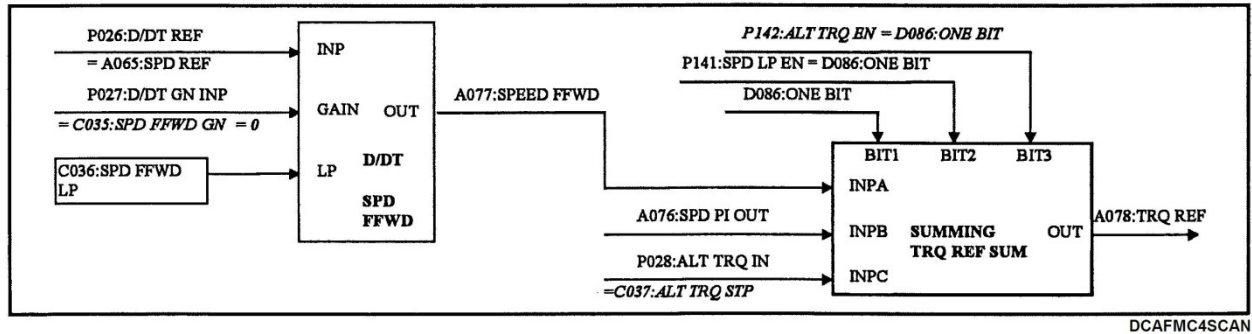
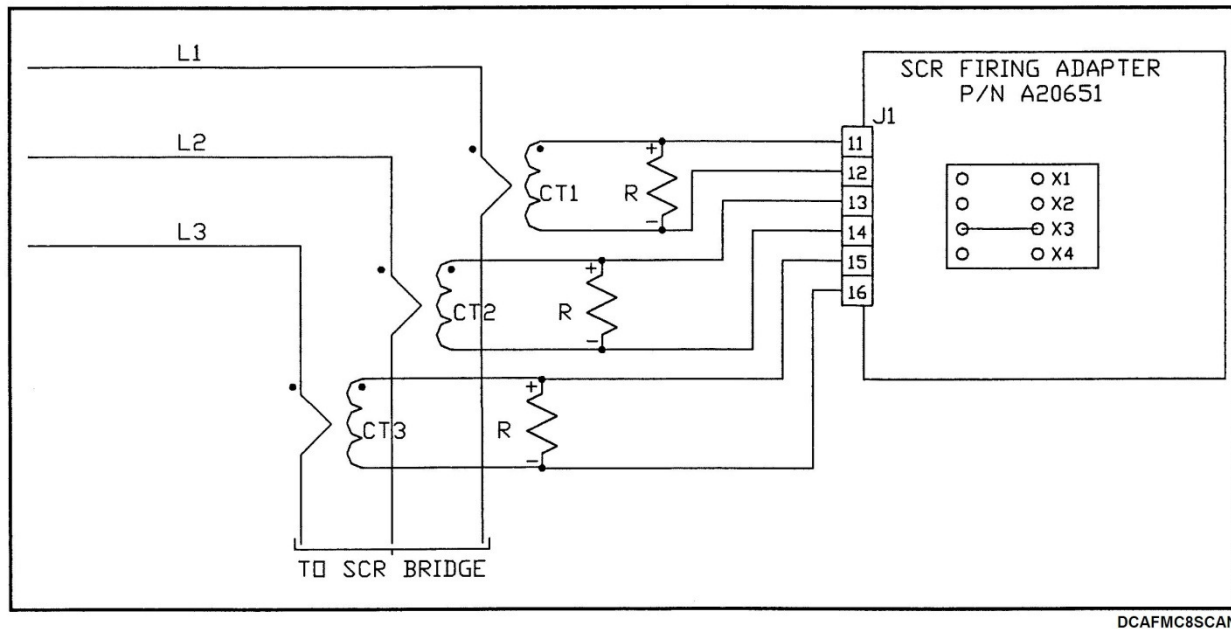
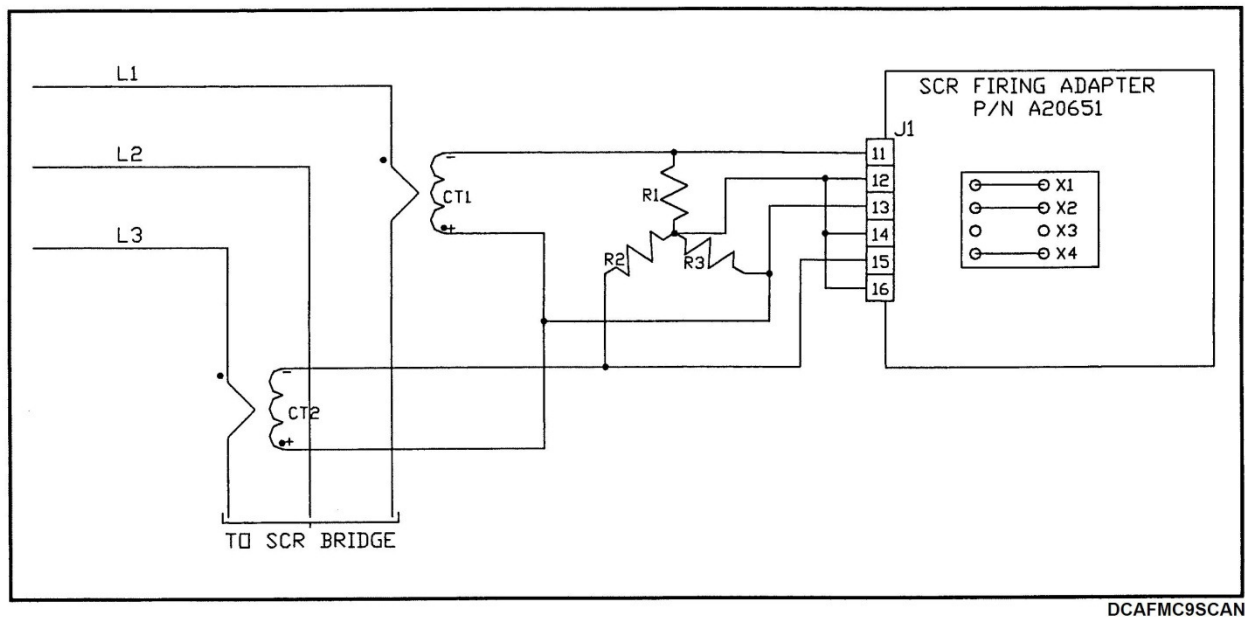

Figure 3-4. 692002.V21 Software Block Excerpt
Figure 3-8. Firing Adapter 3-CT Configuration Diagram
Figure 3-9. Firing Adapter 2-CT Configuration Diagram
- 18) The 3-CT feedback configuration wiring diagram and jumper settings for the A20651 SCR Firing Adapter are shown in Figure 3-8. Check the polarity of the feedback pulses across each burden resistor with the polarities indicated for each resistor in Figure 3-8. Example: Positive pulses (Figure 3-4) should be observed for a burden resistor when the scope probe is connected to the resistor + and scope ground to the resistor -. Confirm these pulses at J1 of the SCR Firing Adapter. The burden resistor polarities are most easily identified here.
- 21) The 2-CT feedback configuration wiring diagram and jumper settings for the A20651 SCR Firing Adapter are shown in Figure 3-9. Check the polarity of the feedback pulses across each burden resistor with the polarities indicated for each CT with the polarities indicated for each CT in Figure 3-8. Example: Positive pulses (Figure 3-4) should be observed for a CT when the scope probe is connected to the CT + and scope ground to the CT -. Confirm these pulses at J1 of the SCR Firing Adapter, points (13-11) for CT1 and J1(13-15) for CT2. The C polarities are most easily identified here.